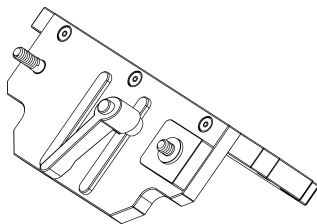

FIG. 1
1. Take (1) Clamping Block (Part #11), (1) 1/4" Stainless Washer (Part #16) and (1) Small Adjustable knob (Part #17) and place them over the Clamping Bolt. Repeat this step for the opposite side. (See Figure 1)